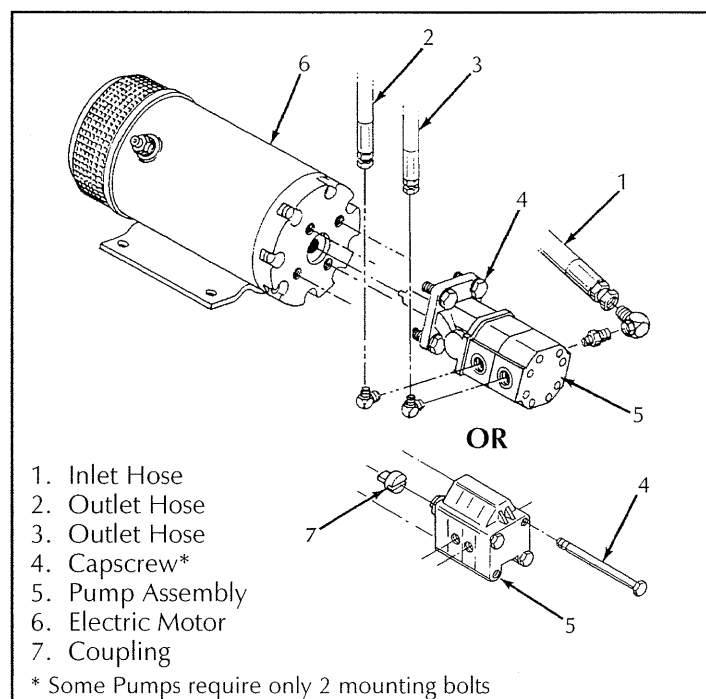

Figure 4-11: Hydraulic Pump
4.8 Hydraulic Pump (Figure 4-11)